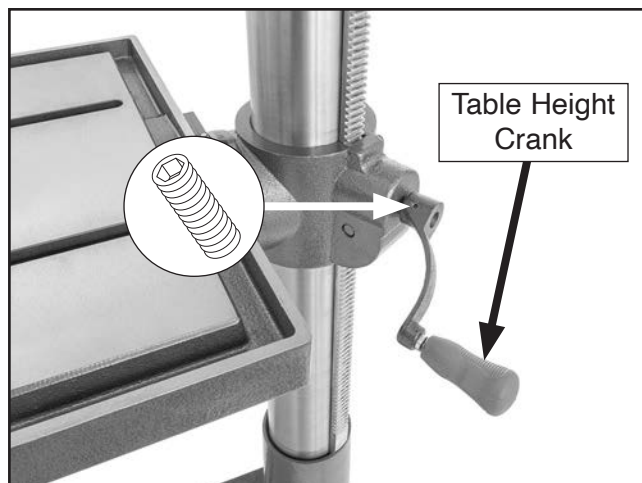

Figure 18. Table height crank installed (T33904 shown).
6. Install table height crank over worm shaft shown in **Figure 18**, then tighten set screw in crank against flat part of shaft to secure.